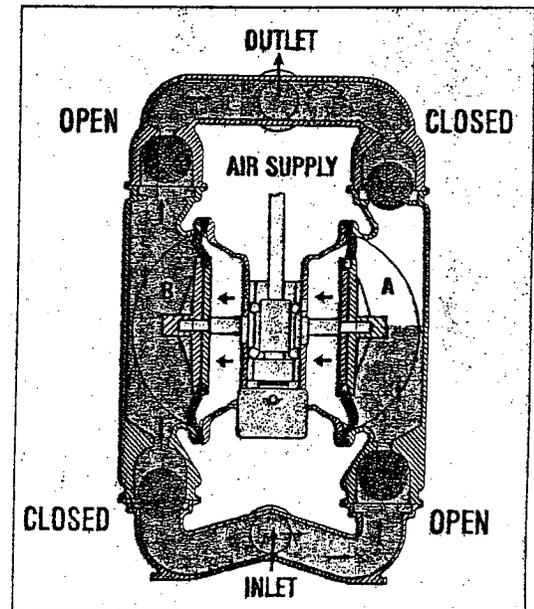

FIGURE 2
**FIGURE 2** When the pressurized diaphragm, diaphragm A, reaches the limit of its discharge stroke, the air valve redirects pressurized air to the back side of diaphragm B. The pressurized air forces diaphragm B away from the center block while pulling diaphragm A to the center block. Diaphragm B is now on its liquid discharge stroke. Diaphragm B forces the inlet valve ball onto its seat due to the hydraulic forces developed. These same hydraulic forces lift the discharge valve ball off its seat, while the opposite discharge valve ball is forced onto its seat, forcing fluid to flow through the pump discharge. The movement of diaphragm A to the center block of the pump creates a vacuum within liquid chamber A. Atmospheric pressure forces fluid into the inlet manifold of the pump. The inlet valve ball is forced off its seat allowing the fluid being transferred to fill the liquid chamber.